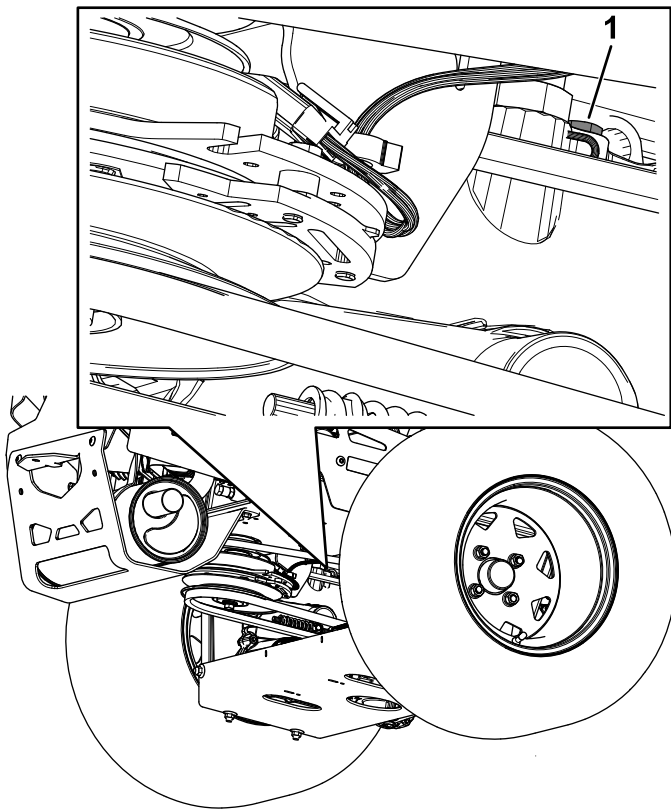

Figure 85
- **For ZT 5400 Hydros**, use a 7/16-inch wrench to access the vent plug from underneath the machine (Figure 85).